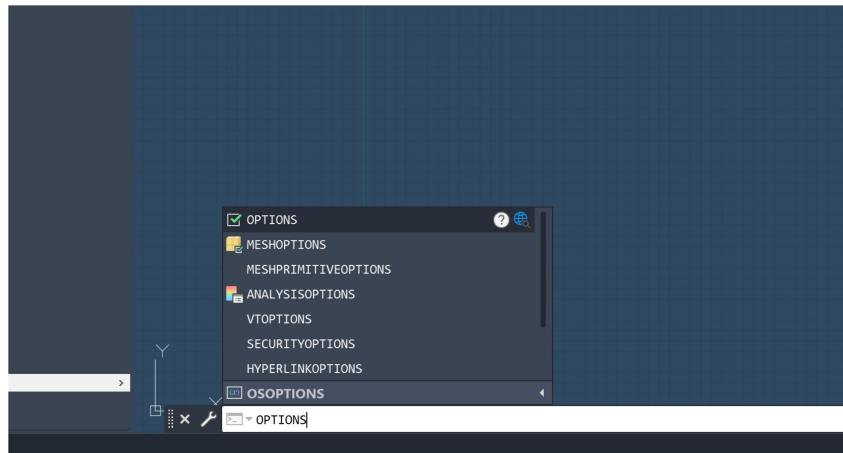

Figure 1: Options Command
2. In the command bar type **-OPTIONS** as shown in Figure 1 to open the Options Menu